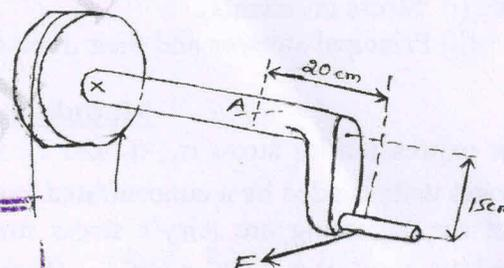

Fig.Q10
- 10 A force $F = 45000 \text{ N}$ is necessary to rotate the shaft shown in Fig.Q10 at uniform speed. The crank shaft is made of ductile steel whose elastic limit is 207000 kPa both in tension and compression with $E = 207 \times 10^6 \text{ kPa}$, $\mu = 0.25$. Determine the diameter of the shaft using the octahedral shear stress theory and the maximum shear stress theory. Use a factor of safety $N = 2$. Consider a point on the periphery at section A for analysis.